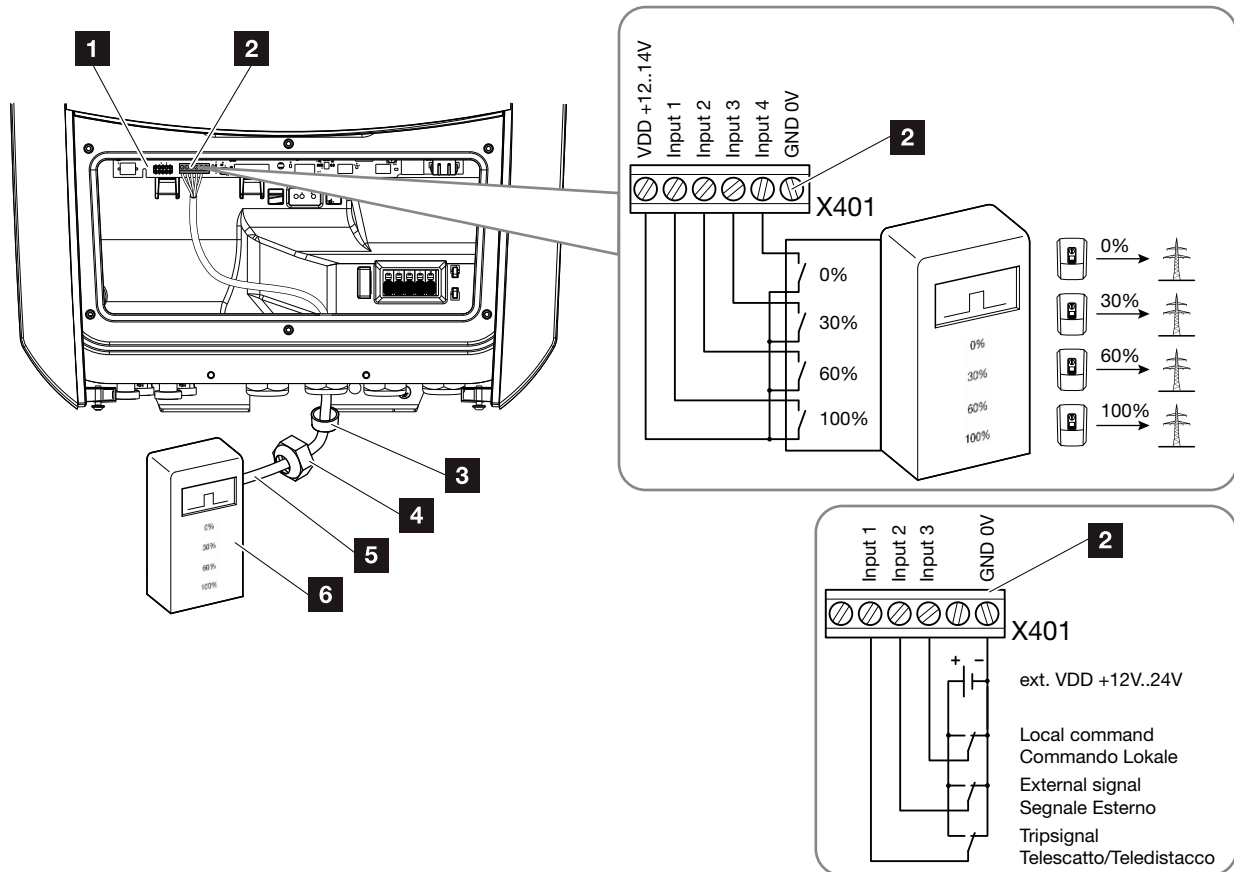

Fig. 29: Connection of ripple control receiver
4. Connect communication cable in inverter to terminal for ripple control receiver **Fig. 29, It. 2**